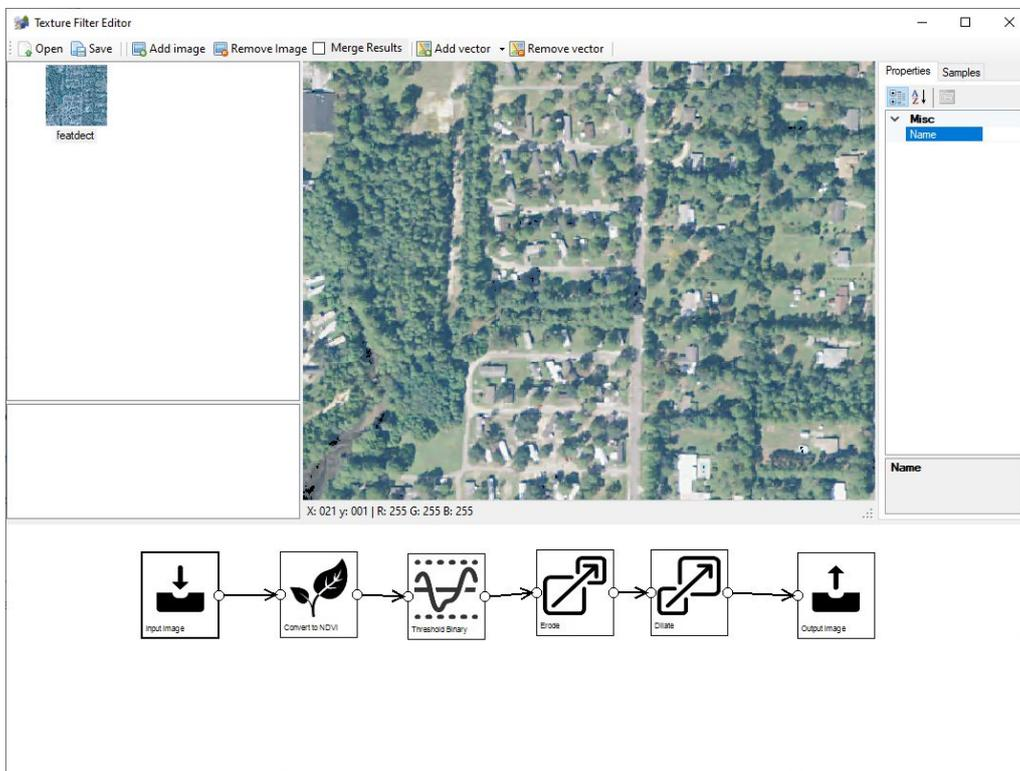

Figure 6.26: The input image for the vegetation detection
1. The input image to use, see Figure 6.26.